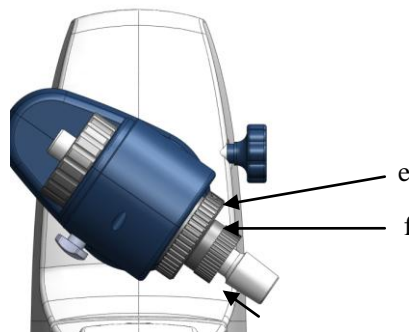

Figure 9
- Open the locking device on the drive head by turning it 60 ° counter clockwise (e), (Figure 9).
- The plastic screw nut (f) helps loosen tight-fitting piston ground-in connections (Figure 9).